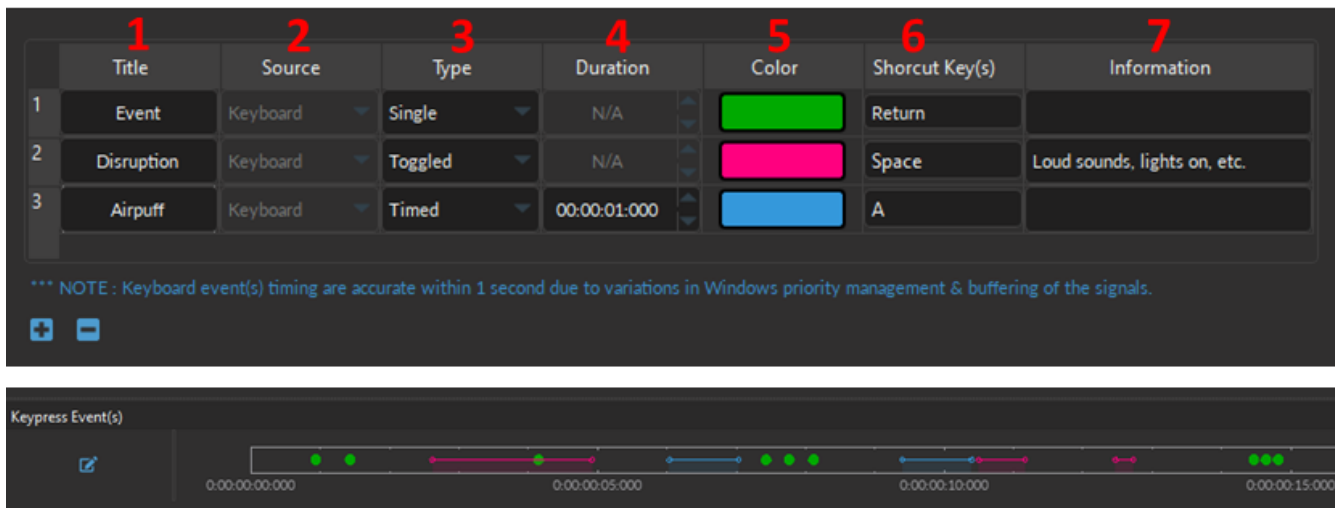

Figure 10.24: Channel(s) configuration window, Keypress Event(s)
The following are the configurable parameters of a **Keypress Event**, per Fig. 10.24:
1. The **Title** (Fig. 10.24, 1) allows you to give a name for the Keypress event.
2. The **Source** (Fig. 10.24, 2) is by default *Keyboard*.
3. Three **Types** of Keypress Event(s) (Fig. 10.24, 3) can be specified with the drop-down list:
- The **Duration** (Fig. 10.24, 4) is only used for the **Timed** Keypress type to specify the predetermined amount of time a Keypress Event will span. The duration is set in hh:mm:ss:zzz.
- Select the **Color** (Fig. 10.24, 5) field to open the **Select Color** window. Basic colors are provided, in addition to custom colors can be created and stored.
- The **Shortcut Key(s)** (Fig. 10.24, 6) can be any keyboard key, including space bar, enter, backspace, any letters, number, and special characters (*, !, ? etc.). To specify the key, click inside the *Shortcut Key(s)* cell, then press the keyboard key of choice. If a key was properly set, it will appear in the *Shortcut Key(s)* cell (as in Fig. 10.24, column 6).
- The **Information** column (Fig. 10.24, 7) provides space to make notes or write a short description of the Keypress Event.